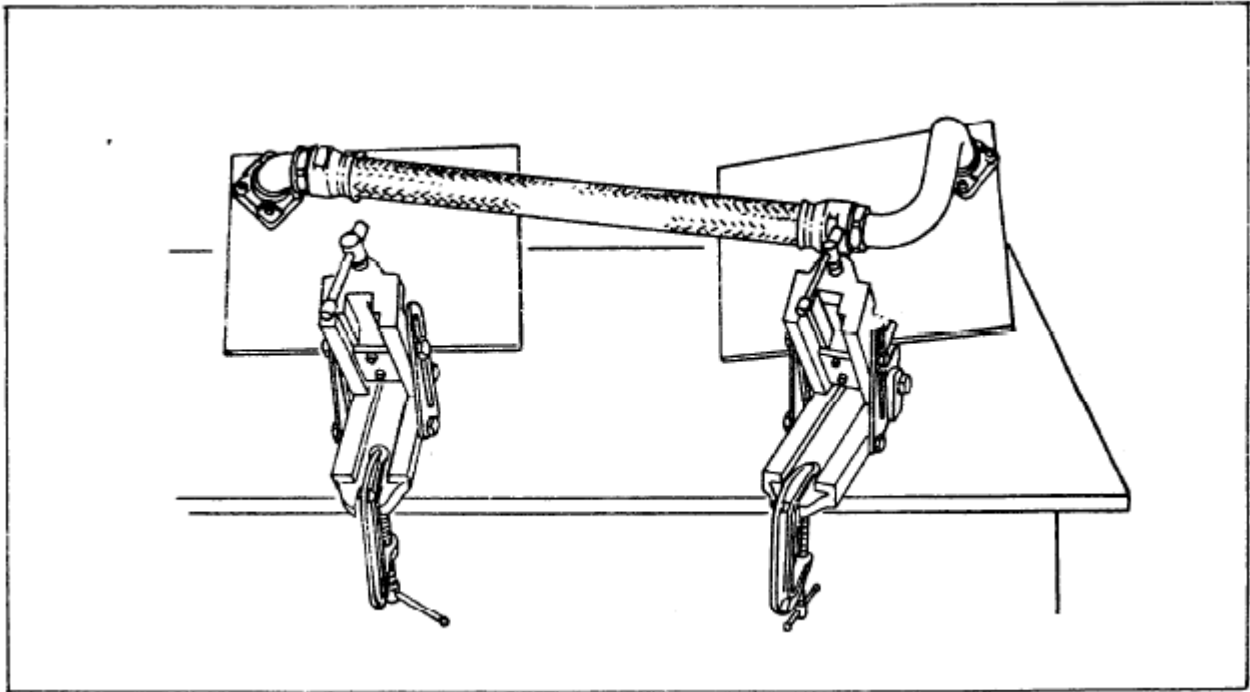

Figure 8: Measuring Device
h. Rotate elbow to required angular position as shown in Figures 8 through 13.